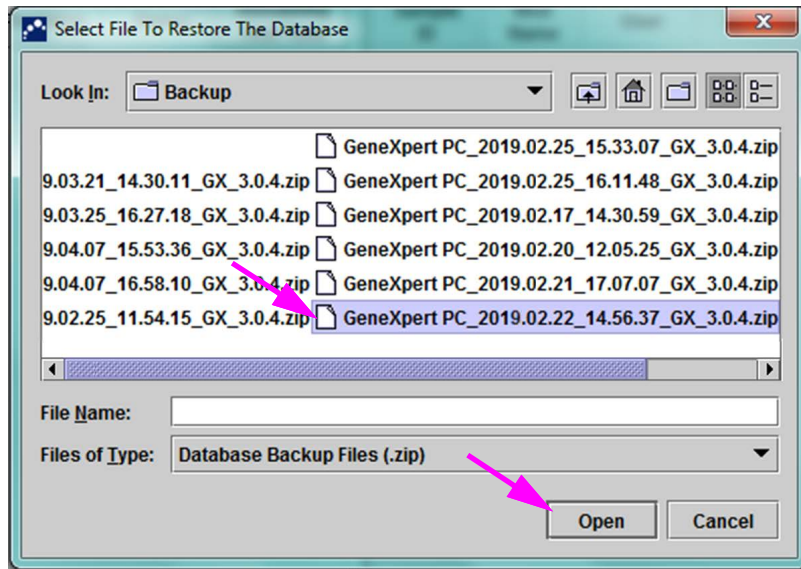

Figure 5-75. Select File to Restore the Database Screen, with Filename
Click **Cancel** to not back up the database and proceed directly to the Select File To Restore the Database screen (see Figure 5-75).
- Click **OK**. The Select File to Restore the Database screen appears. See Figure 5-75.